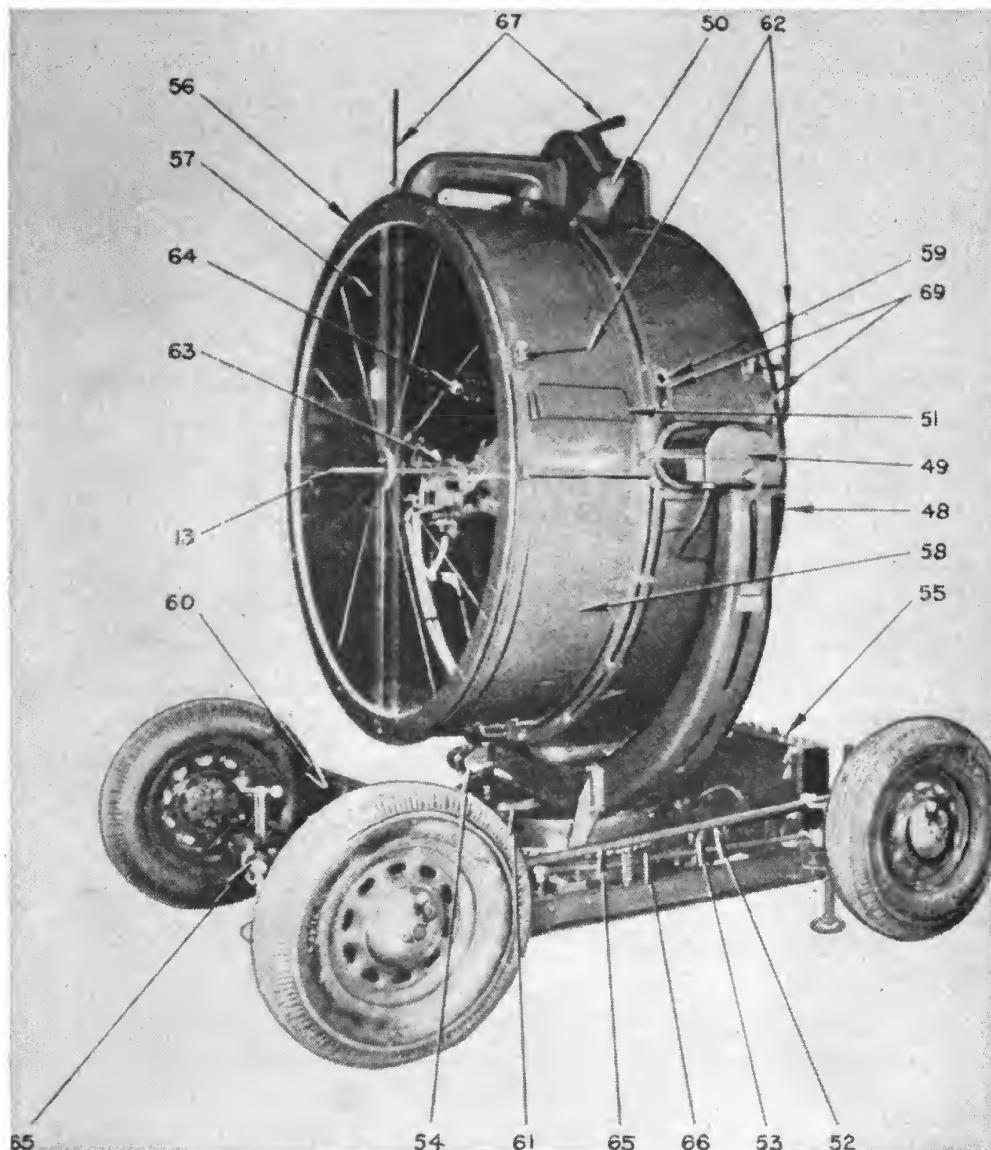

FIGURE 2.—Sperry M1941 antiaircraft searchlight (front quarter view).
**Q.** Point out the various parts of the searchlight with which your unit is equipped. While pointing out each part, describe its use. **A.** See figures 2, 3, 4, and 5.